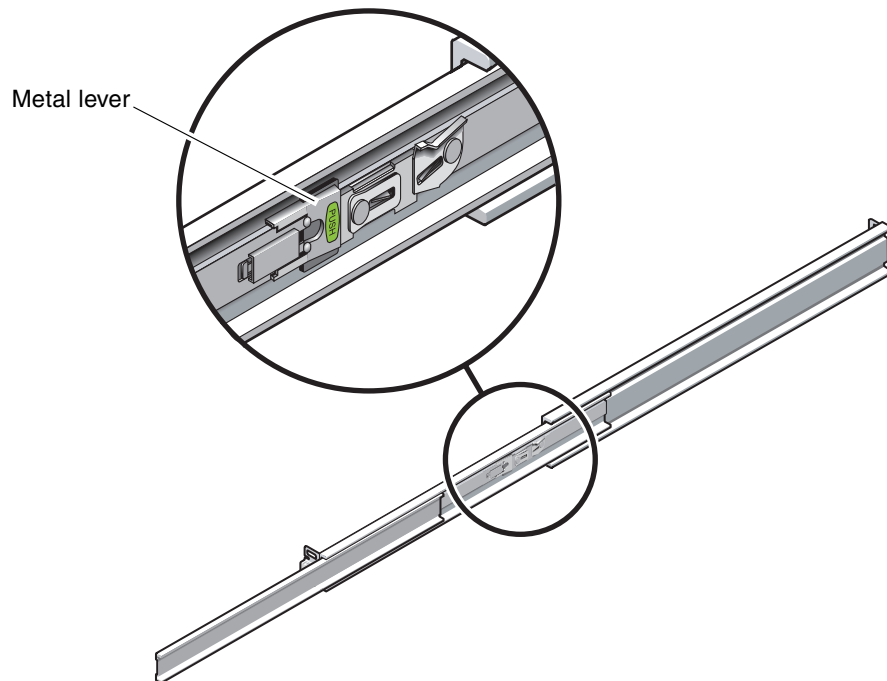

FIGURE 2-16 Unlocking the Slide Rail Middle Section
- d. Press the metal lever (labeled Push) on the middle section (FIGURE 2-16) of the sliding rail, and then push the middle section back into the rack.